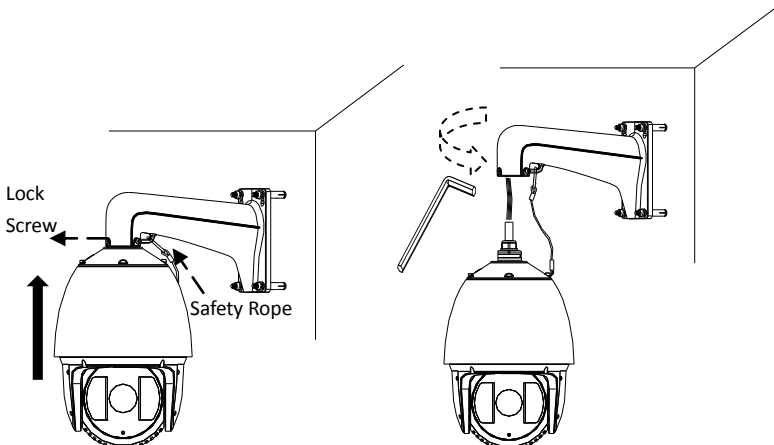

Figure 2-6 Secure the Speed Dome
- 1). Hang the safety rope to the speed dome and then hook to the mount as shown in Figure 2-6.